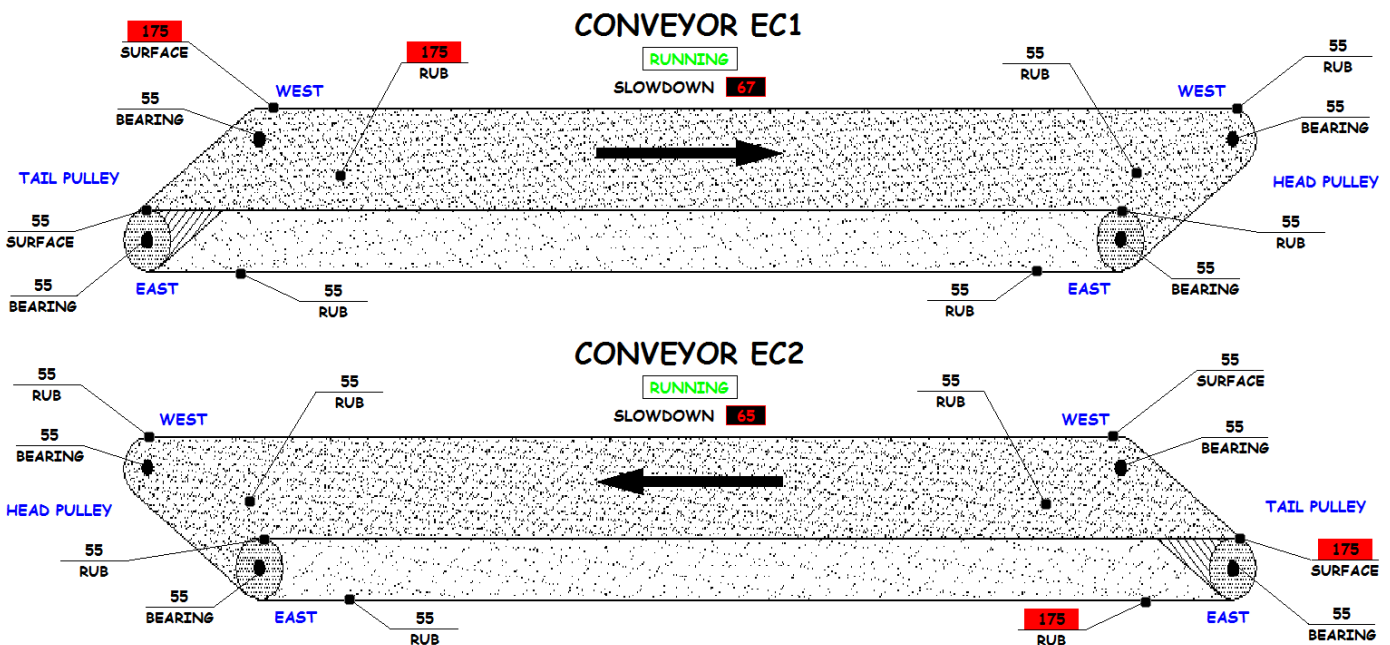

Figure 3 - Showing Hazard Monitoring Screens with Trip Setpoints reached.
- If any point reaches the Trip Setpoint (175° F), that point will flash Red (Figure 3).